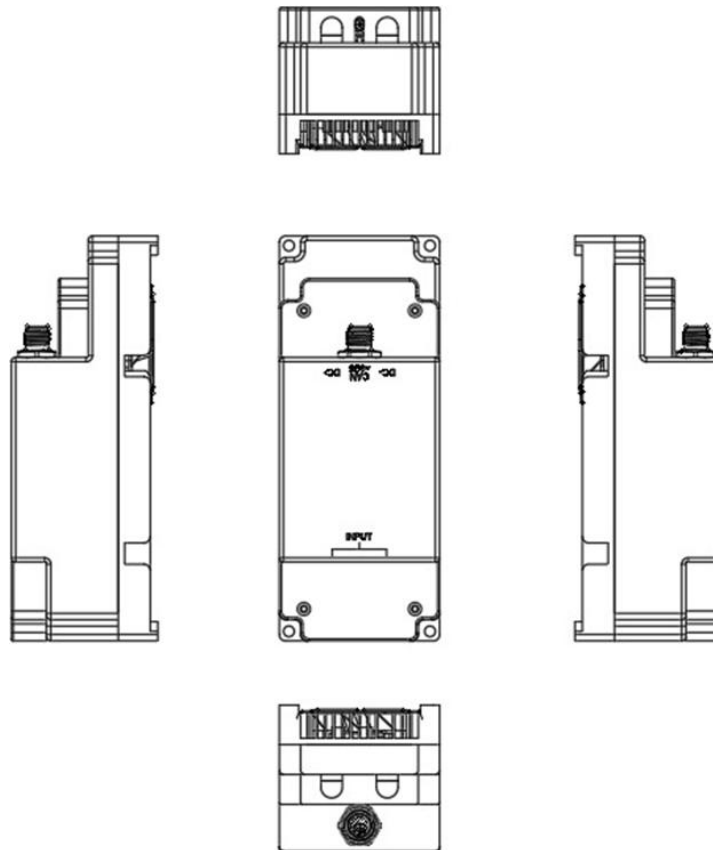

Fig 7 – Outline and size of receiver controller (active cooling) (measurements in mm)
4. The coil is installed as shown in Figure 7. Pay attention to the coupling surface. There should be no metal or living organisms entering between the two coils and within 5cm around the coil (except the back).